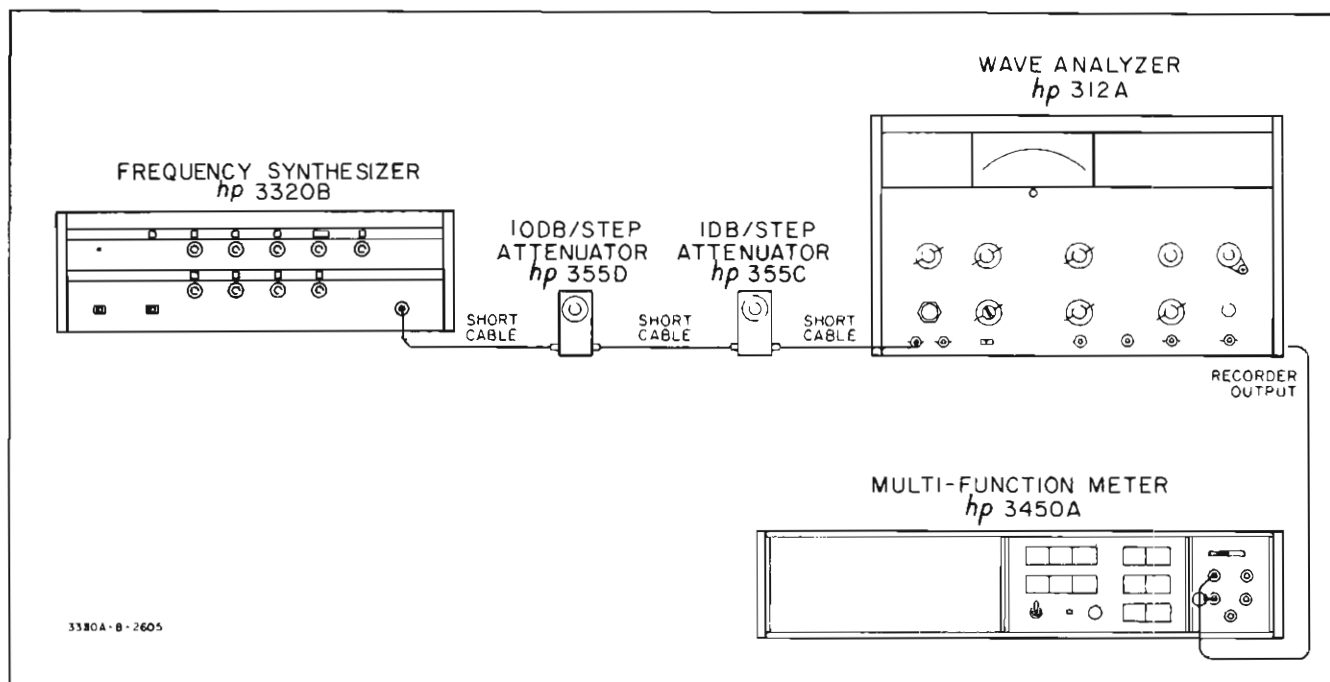

Figure 5-6. 3320B Attenuator Accuracy.
- a. Connect the equipment as shown in Figure 5-6.